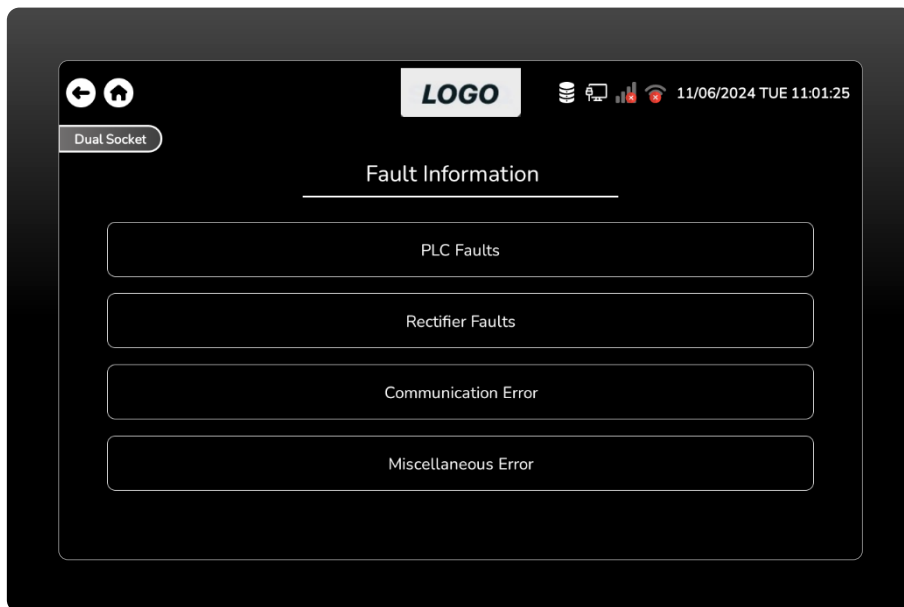

Figure 100 Fault Information Screen.
- This is the fault information screen, where the user can view fault information for the PLC, rectifier, communication, and miscellaneous. (Figure 100)